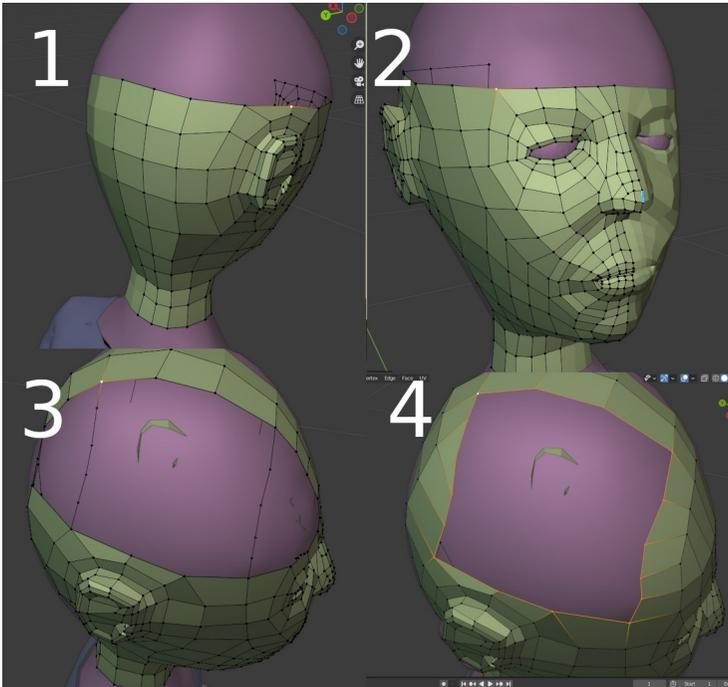

Figure 7-15 Grid Fill the cranium
Grid Fill is a method for instantly filling areas with mesh, very similar to bridging edge loops. Try using it to complete the mesh for the cranium. In Figure 7-15 you can see the approach I took to create a rectangular area to fill.
1. Start by building a line of quads over the top of the head then mark out a rectangle so each side has the same number of vertices as the opposite side as shown in Figure 7-15 stage 3.
3. Select the edge loop around the outside of the rectangle ensuring that one of the corner vertices is "selected" in the Blender sense, showing yellow rather than orange. In Figure 7-15 stage 4 you can see that the top left corner of the rectangle is the selected one. You might have to deselect a corner vertex then reselect it.